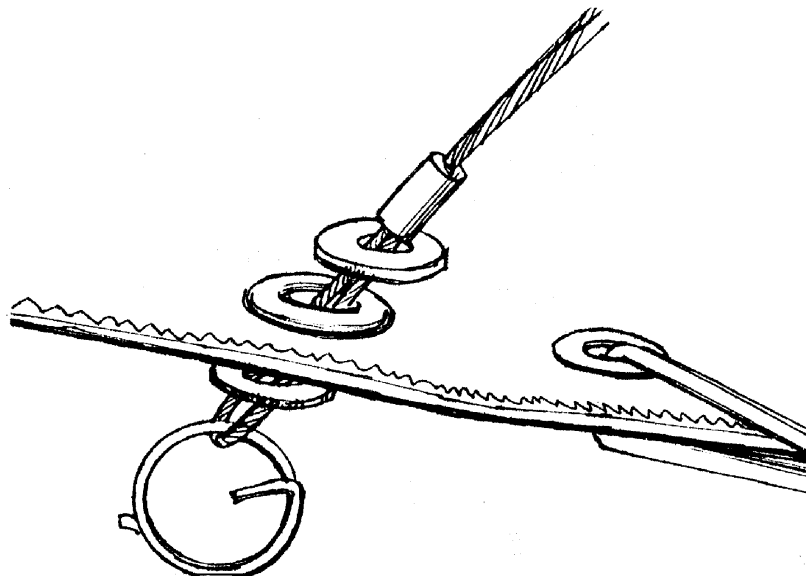

Fig. 19
2.1.21. Put the short luff lines through the grommet which is free from the batten tension leech line and which is near the 2-nd batten pocket from the keel. Fit the washers and the safety ring over the wire loop (Fig.19).
2.2.5. Remove the protective bag from the rear section of the keel tube. Attach the hook of the top rear wire and the luff lines to the thimble of the top front wire (see fig.19). Make sure that the hook for the wires is not inverted and the luff lines are not twisted.